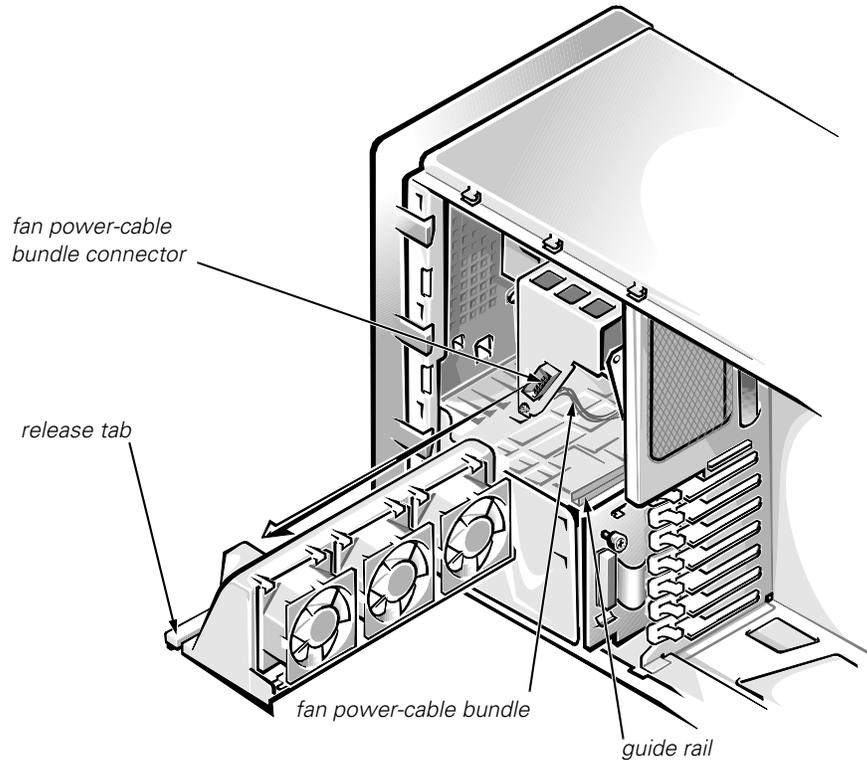

Figure 4-14. Hard-Disk Drive Fan Assembly
- 2. Press the release tab on the fan carrier (see Figure 4-14) up away from the hard-disk drive bay, and slide the fan assembly out of the chassis.**
- 2. Squeeze the ends of the power-cable bundle connector (see Figure 4-14) while pulling the cable from it from under the metal support bracket.**